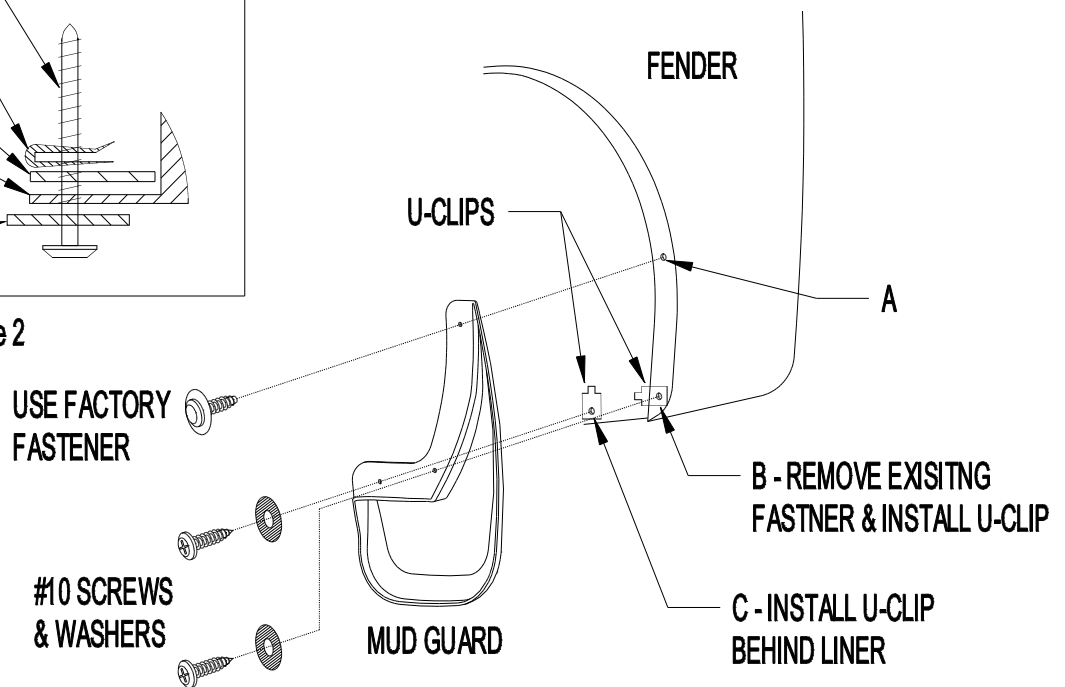

Figure 1
- #10 screw (4)
- Washers (4)
- U-clip (4)
2. Remove existing fastener from location A and plastic fastener from location B (Figure 1).
3. Install mud guard to rear fender with existing fastener at location A (Figure 1). Check fit and parallel and adjust accordingly before tightening.